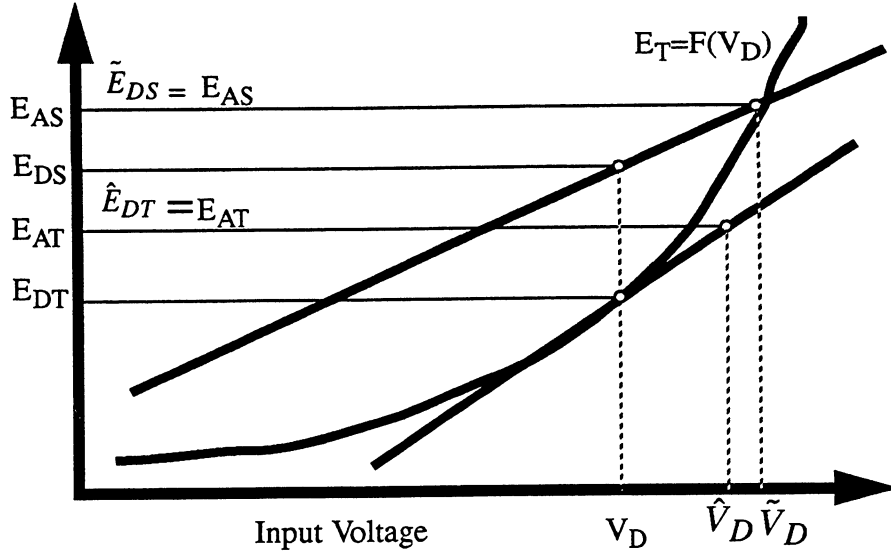

Figure 7. Linearization of the Test Device
Now that the test device is linearized, it is time to determine the aV/dV difference. Applying equation (1) to figure 7, the aV/dV difference of the test and standard devices is seen to be the following
Referring again to figure 7, it can be seen that \tilde{V}_D and \hat{V}_D are as follows.